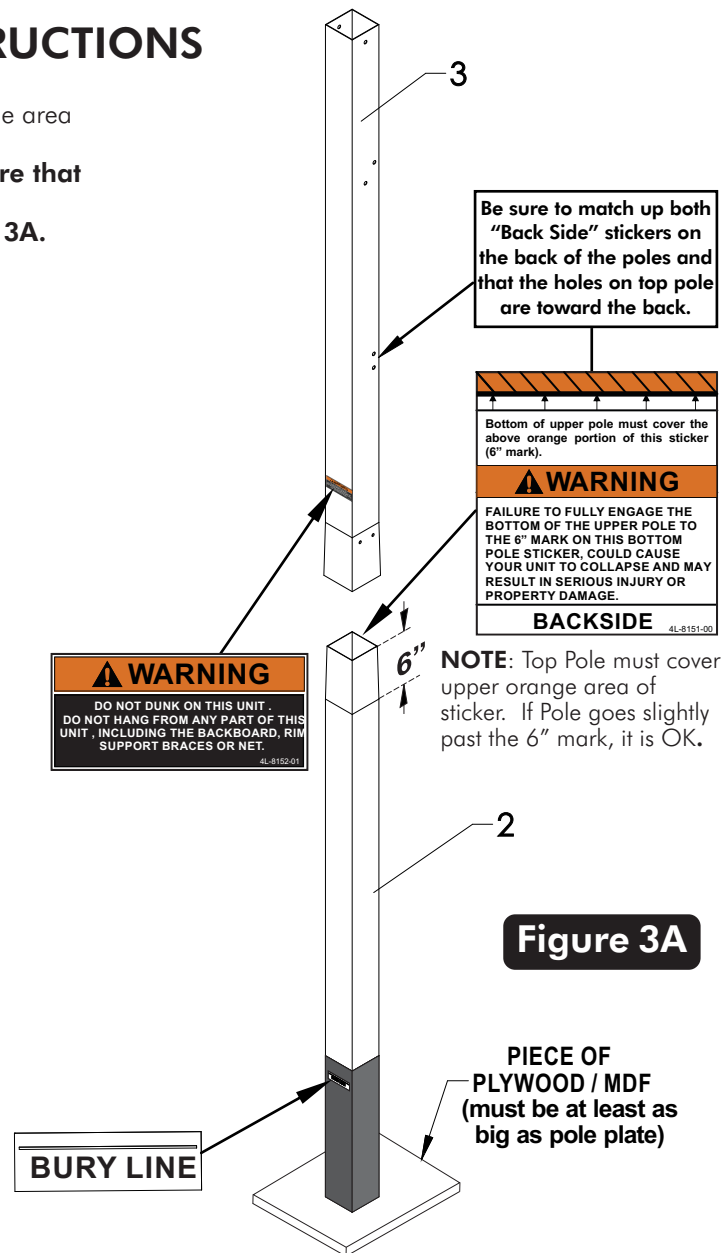

Figure 3A
1. Before putting any of the poles tubes together, make sure that the orange area of the Warning Sticker on Pole (#2) is 6 inches from the top end. **Be sure that the "Back Side" stickers are at the back of the pole.** See Figure 3A.
2. Align the upper pole (#3) with the bottom pole (#2) as shown in Figure 3A and slide them together. While maintaining control of the pole assembly stand poles up **STRAIGHT** on a piece of MDF board or Plywood, **lift poles up by bottom pole** below the 6" mark shown on sticker and slam down the bottom pole as many times as needed on the MDF board or Plywood **until the bottom of the upper pole reaches the 6" mark** (on Sticker) on the bottom pole. Lift the pole 10-12 inches off the ground when slamming the poles together. **See Figure 3A & 3B.**